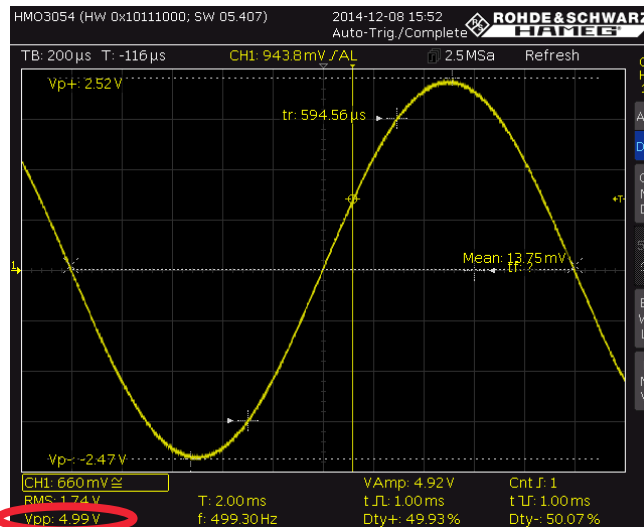

Fig. 2-39: Display of all relevant signal values.
- Press the *QUICK View* key. All relevant parameters of the input signal u_{in} are displayed (Fig. 2-39), $U_{in} = V_{pp} = 4.99\text{ V}$. (Note: You can also use the *CH2* key to switch to the output voltage U_{out} .)